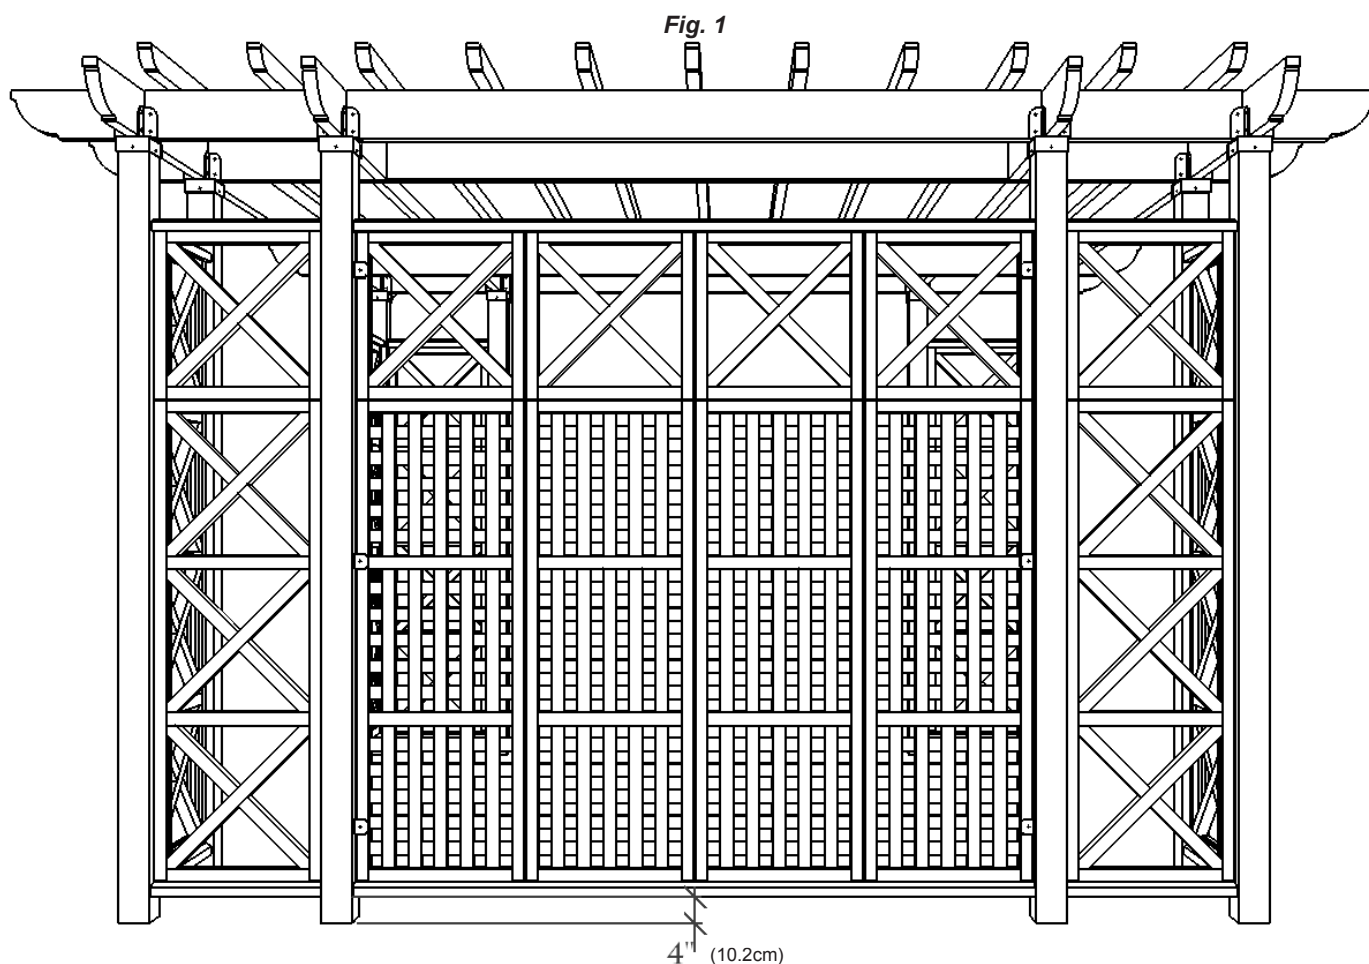

Fig. 1
1. With the help of an adult, place the Wall on Panel Clips as shown (Fig.1) allowing a 4" gap between the bottom of the post and the bottom edge of the bottom rail on the panel assembly.
3. Fasten the Wall to the post and Panel Clips with a S5- 1" Pan Head Screw provided in location of arrows. (Fig. 1)